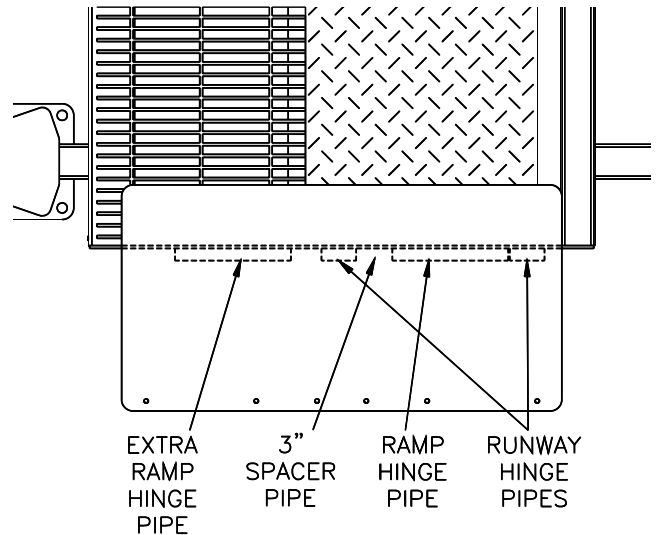
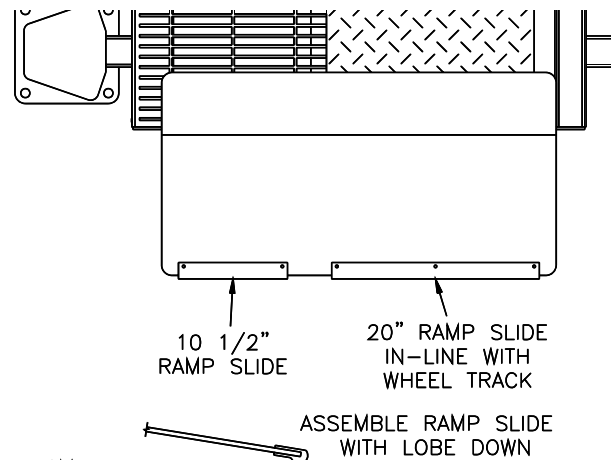

Fig 28 – Rear Ramp Hinge Spacer (left side shown)
Fig 29 –Rear Ramp Slides (left runway shown)
- **MDTR** ramps are identical for left and right runways, but different from front to rear. The front ramps are 51 1/4" wide. Attach each to runway with (1) ramp hinge pin and two (2) cotter pins. The rear ramps are 38" wide and have two hinge tubes to allow it to be hung from the left or right runway. Attach each rear ramp, along with a 3" hinge tube spacer, to each runway using (1) ramp hinge pin and two (2) cotter pins, see **Fig 28**. Attach one (1) 20" ramp slide and one (1) 10 1/2" ramp slide to both rear ramps, **Fig 29**. Attach two (2) 20" ramp slides to both front ramps
- **MDTN** ramps are all identical left, right, front, & rear. Secure each with one (1) ramp hinge pin and two (2) cotter pins.